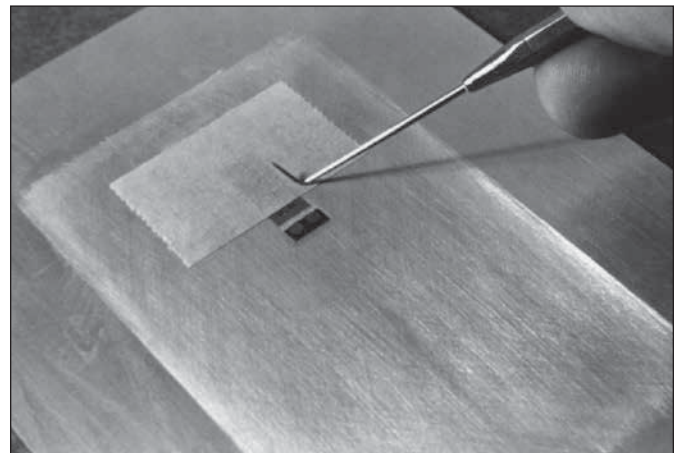
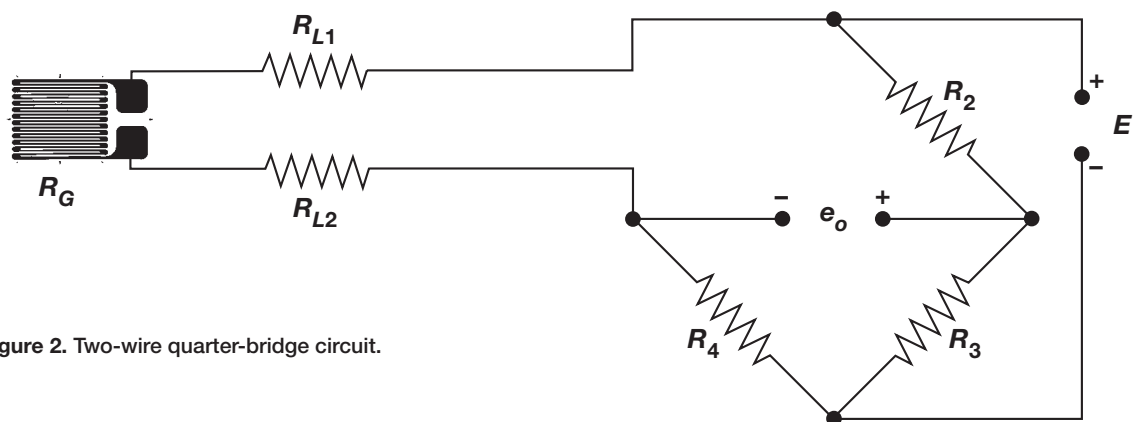

Figure 1 – Gage grid and upper portion of solder tabs masked with drafting tape.
Figure 2. Two-wire quarter-bridge circuit.
Before tinning the solder tabs on open-face (unencapsulated) strain gages, the measuring grid should be protected with PDT drafting tape. The drafting tape is positioned to cover the entire grid and the upper portion of the solder tabs, as shown in Figure 1. This not only shields the grid from soldering flux and inadvertent solder splash, but also restricts the flow of solder on the tabs. The tinned area on the solder tabs should be only large enough to easily accommodate the leadwire size in use. The latter consideration is particularly important when making installations for dynamic applications or large-strain measurement.
The Wheatstone bridge circuit in its simplest form (Figure 1) consists of four resistive elements, or bridge arms (R_1 , R_2 , R_3 , R_4), connected in a series-parallel arrangement, with an excitation voltage source (E). The connection points formed by (adjacent) pairs of bridge arms and the leadwires from the excitation voltage source are input corners of the bridge; and those formed by pairs of bridge arms and the signal (e_o) measurement leads are output corners. It is worth noting for this discussion that each input corner is adjacent to each output corner, and each bridge arm is connected between two adjacent corners.
For an initially balanced bridge, if one of the resistors in Figure 1 is replaced with a strain gage of precisely the same resistance value and connected with two leadwires having negligible resistance, the bridge circuit remains at balance. But in practice the leadwires will have some measurable resistance R_L as shown in Figure 2 on the next page. And because both leadwires are in series with the strain gage between adjacent corners of the bridge circuit, the bridge arm resistance becomes $R_G + R_{L1} + R_{L2}$, causing a significant lack of symmetry and an unbalanced condition in the bridge, resulting in a non-zero output voltage at e_o .
And finally, a more serious problem may result if the temperature of the leadwires changes during the measurement process. Copper leadwires change in resistance approximately 22% of their room-temperature resistance value for a 100°F (55°C) temperature change. For the 120-ohm gage circuit in Figure 2, this would result in an error equivalent to approximately 156 microstrain, or about 4700 psi (0.03 GPa) in steel, for a 10°F (5.5°C) temperature change in the leadwire system.